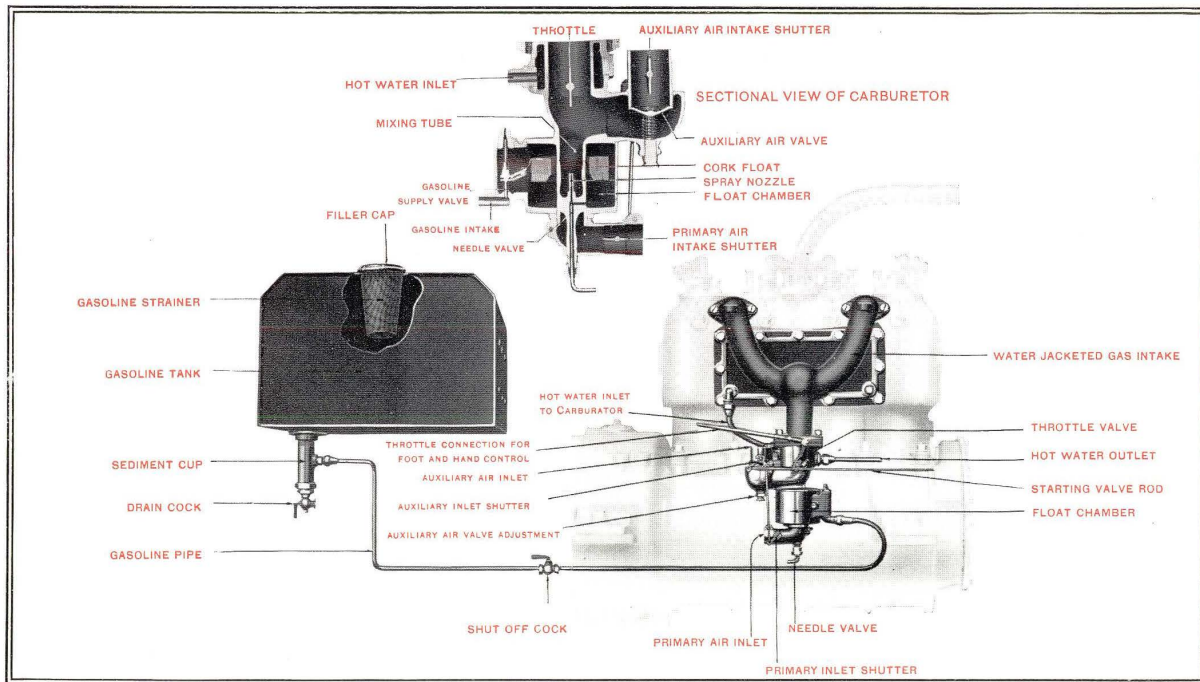

Fig. 6. Gasoline System of the Chalmers "30"
The gasoline system consists of (1) the gasoline tank, with sediment cup at the bottom, (2) the gasoline pipe, (3) the carburetor and (4) the intake manifold (Fig. 6). Liquid gasoline flows from the tank through the gasoline pipe to the carburetor. Here it is vaporized and mixed with air. The mixture is drawn by the suction of the descending pistons into the cylinders where it is exploded by the spark.
Beneath the gasoline tank is placed the sediment strainer and cup from which the gasoline pipe leads to the carburetor (Fig. 6).
The float chamber (Fig. 6) maintains a constant level or supply of gasoline for the carburetor.
The mixing chamber (Fig. 6) is simply a cylindrical chamber inside the float chamber and surrounding the spray nozzle. It is jacketed with warm water from the cylinder water jacket. This maintains a uniform temperature and insures a complete vaporization of the liquid gasoline.
In order that the proportion of air and gasoline in the mixture may be correct for all motor speeds, two air inlets are provided. The lower one, or "primary air inlet" (Fig. 6), is open at all times, except when starting the car—as explained below. The upper or "auxiliary air inlet" is controlled by a spring. At low speeds when only a small amount of air is being drawn through the carburetor, the spring holds this valve almost shut. As the speed increases and more air is needed, the suction, operating against the tension of the spring, draws the valve further and further open, thus giving an increased supply of air exactly proportioned to the amount needed for the increased speed. The carburetor thus automatically produces the correct mixture for all motor speeds.